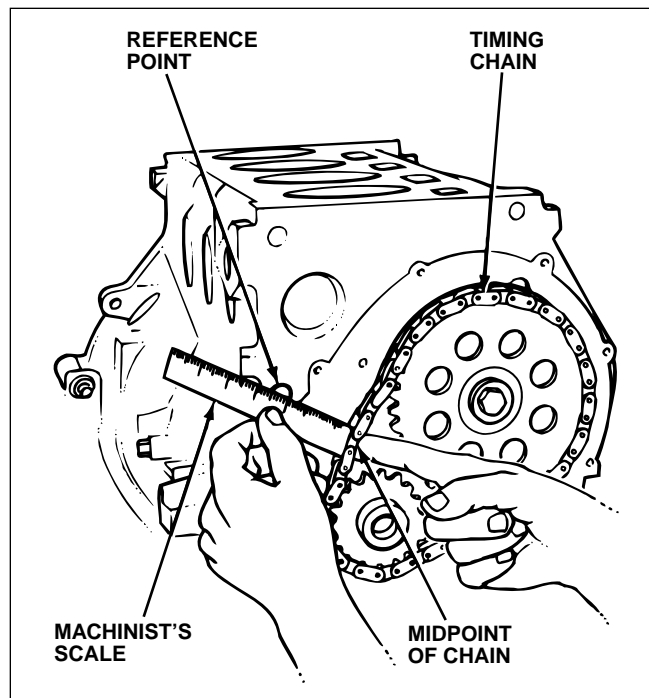

Fig. 2-39. Rotate to transfer slack to the opposite side, then measure chain deflection.
4. Push the slack portion of the chain towards the reference point and measure the distance from the reference point to the chain, figure 2-39